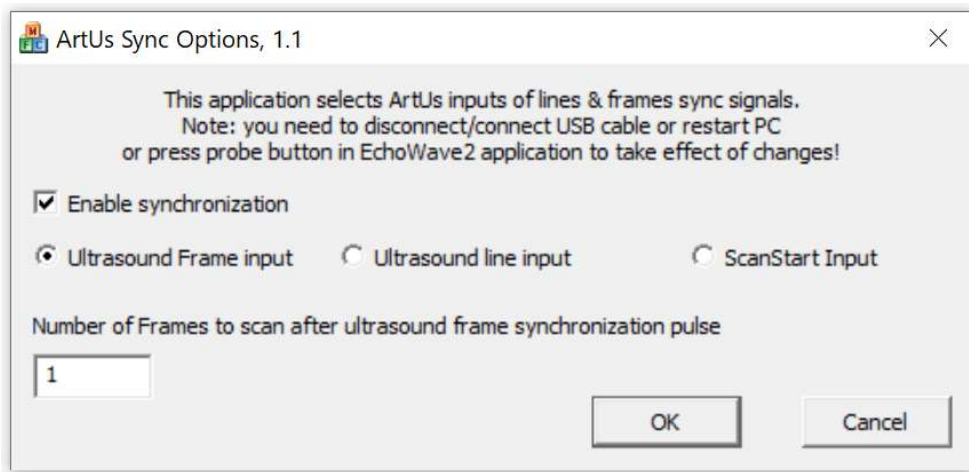

Figure 27: Enable synchronization for normal MoleculUs operation mode with US trigger supplied from the ADC256 board.
- a. Always run the MoleculUS application before starting the EW2 ultrasound application, if synchronization between the PA and the US was enabled using “ArtUs Sync Options.exe” (Figure 27).